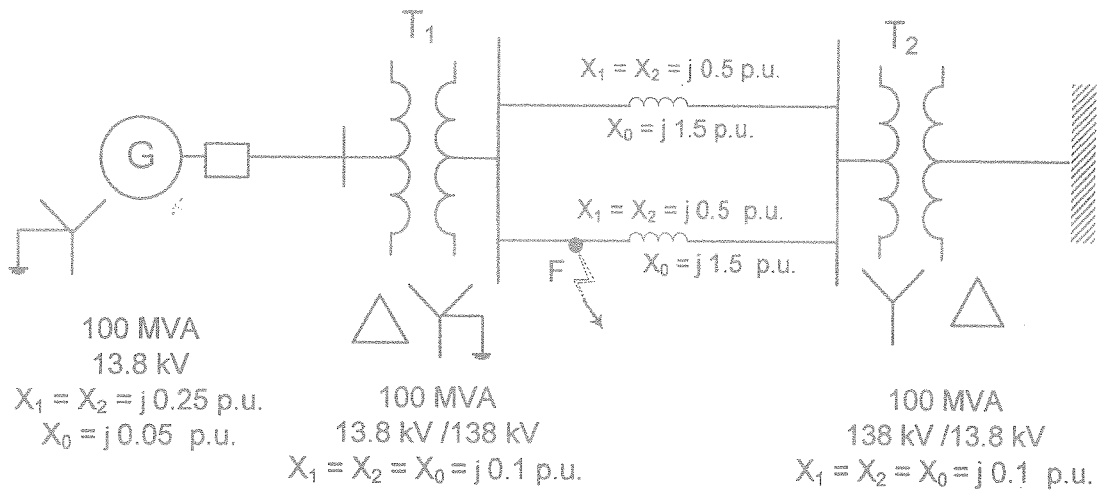

Figure Q1
- b) A single line diagram of a power system is shown in Figure Q1. The neutrals of the generator and the transformer T_1 are solidly grounded.
- Draw the per unit sequence network diagrams for the single line diagram shown in Figure Q1.
- Calculate the fault current, for a line to line to ground(L-L-G) fault from phase 'b' to phase 'c' to ground at the point F in the power system shown in Figure Q1. Assume that the pre-fault voltage at the generator is $1.2 \angle 0^\circ$ per unit.